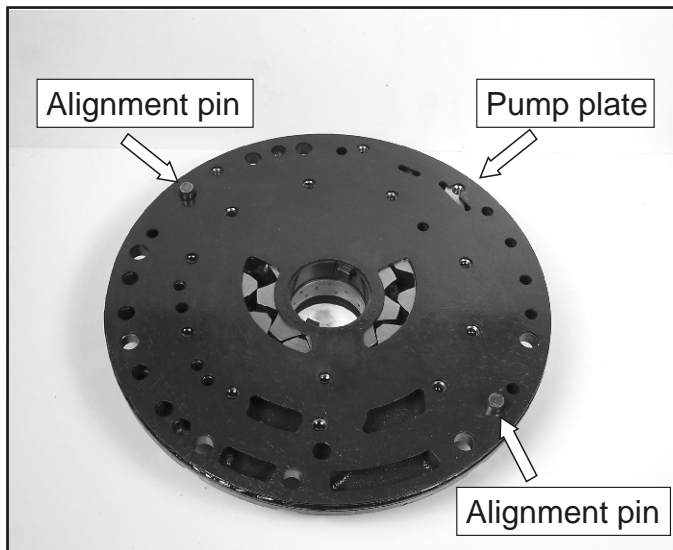

Figure 114
62. Assemble the pump plate on over the two alignment pins shown in Figure 114.